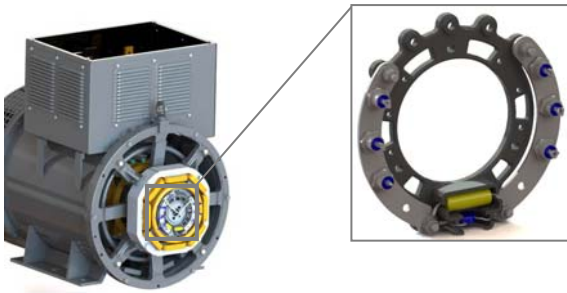

Figure 14.19: Diodes wheel
- Remove the diodes wheel, according to Figure 14.19;